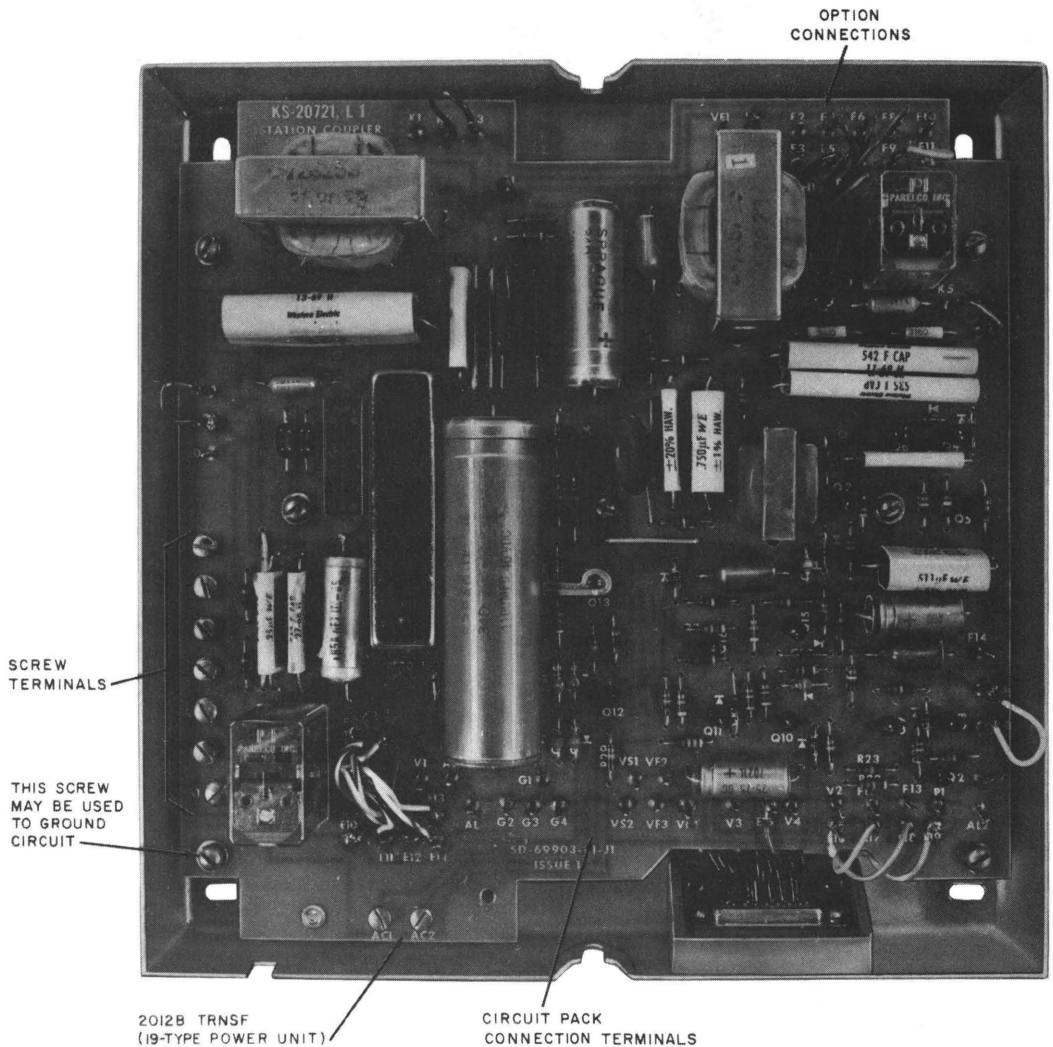

Fig. 2—KS-20721, List 1 Station Coupler, Cover Removed
**2.03** The KS-20721, List 1 station coupler (Fig. 2) is the basic unit, designed to be field equipped with a KS-20721, List 10 hinge assembly for mounting any combination of the optional circuit packs (Fig. 3). The circuit packs are equipped with lead connectors for easy installation.